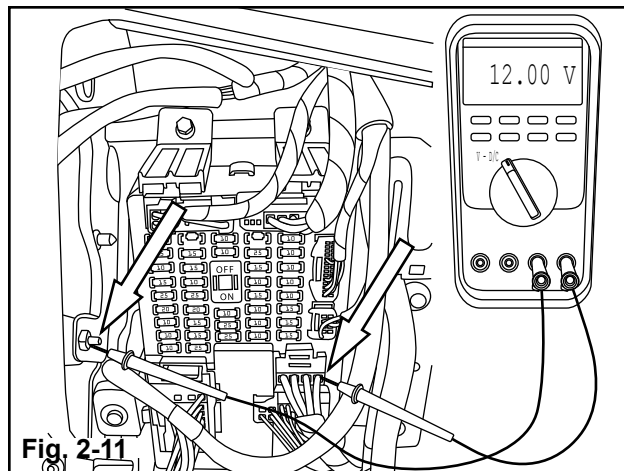

Fig. 2-11
- f) Using multi-meter, locate a wire exiting the junction block that tests +12 Volts and is always on. Operate the vehicles accessories (power windows, door locks, power mirrors, etc.) to ensure the voltage does not drop on this wire. **(Fig. 2-11)**